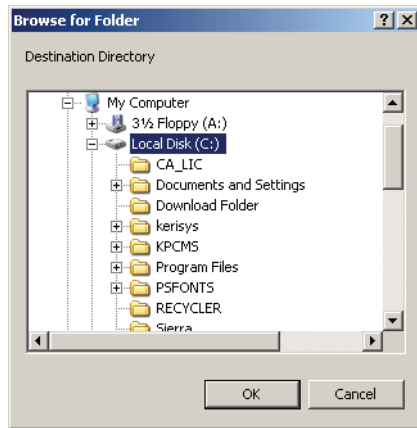

Figure 5-64: Restore Backup Destination
- Click on the **Destination Directory** button. A browser window appears. Select the folder where the backup will be restored (see Figure 5-64).